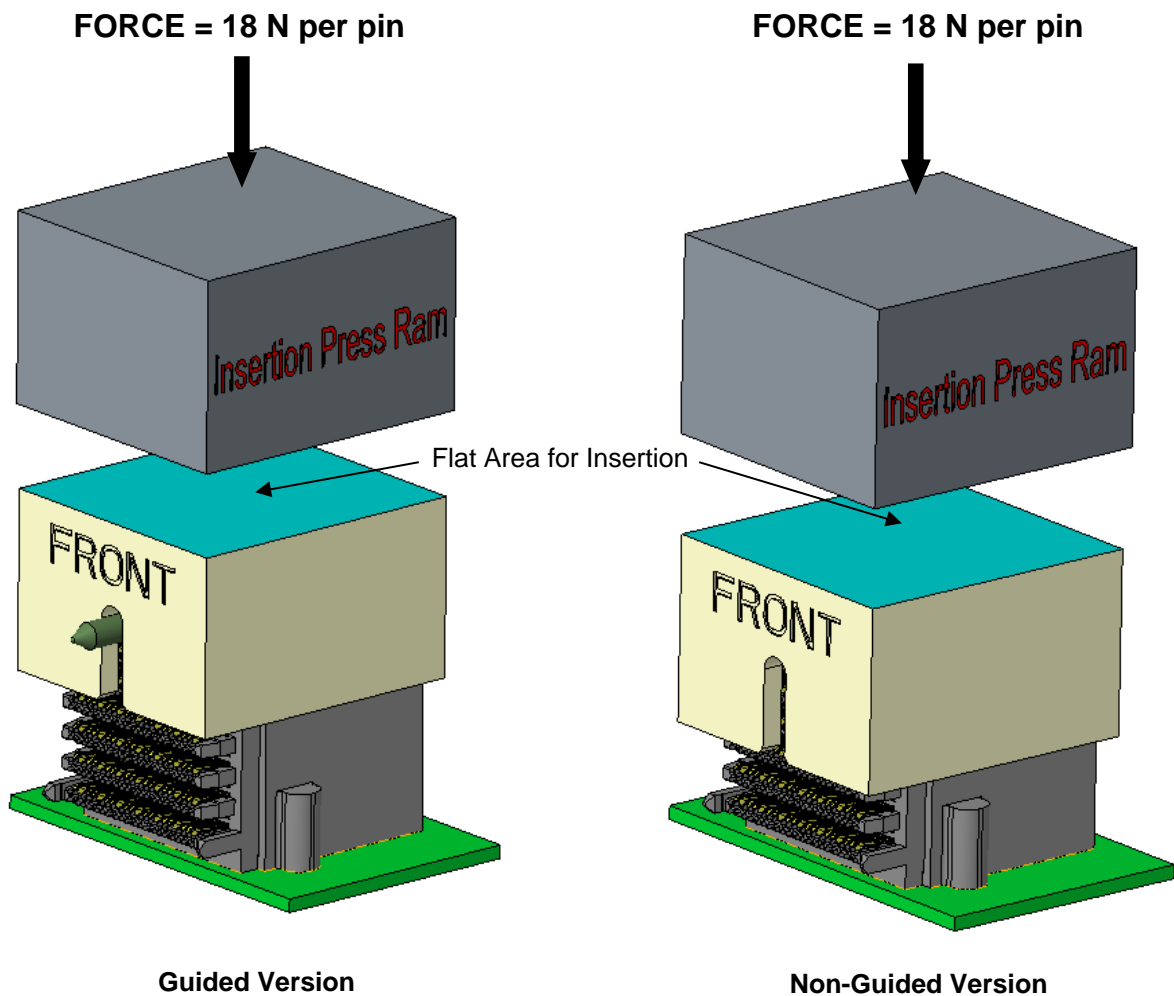

Figure 33: Insertion Press Ram Tool Application to Seat RAOH Connector
- Using an insertion press ram surface and an insertion tool, apply force to the top flat surface of the insertion tool, as shown in figure 33.